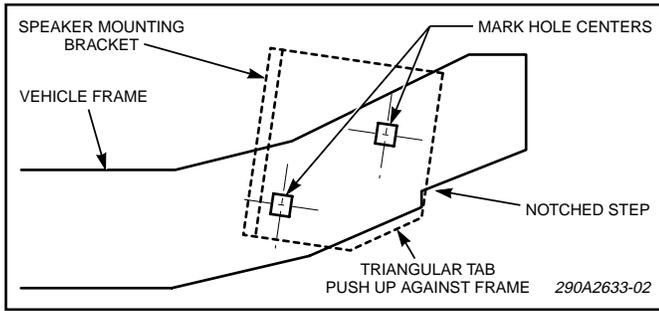

Figure 2.
2. See figure 2. Using the speaker mounting bracket as a template, place the front edge of the speaker mounting bracket's triangular-shaped tab even with the notched step on the vehicle frame's front end. Scribe drill position marks on the vehicle frame. Center punch the drill position marks.